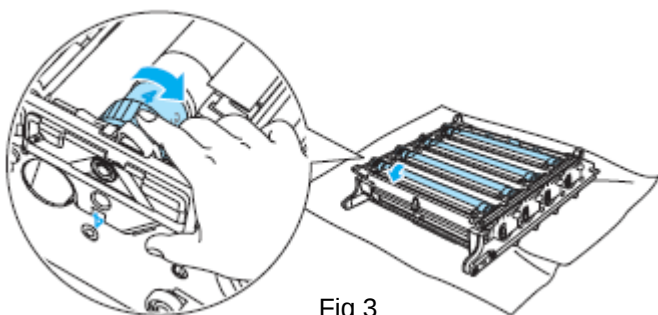

Fig 3
- After cleaning the rollers please return them to the home position. The home position can be identified by matching the number for each roller to the same number on the side of the drum (*Fig 3*).